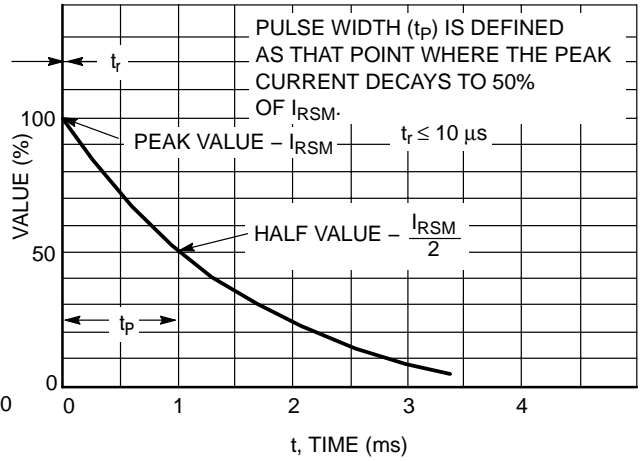
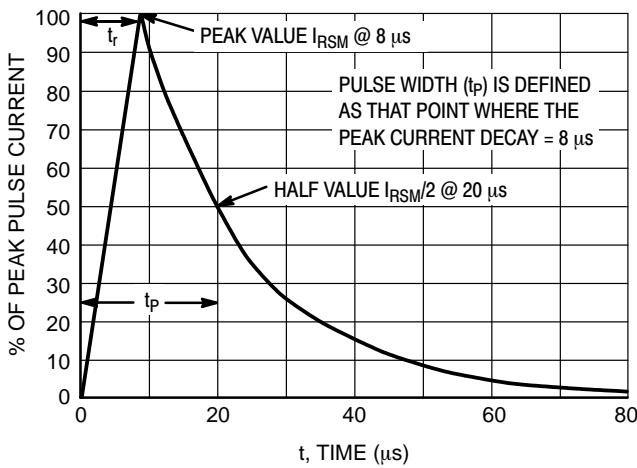

Figure 2. 10 X 1000 µs Pulse Waveform
Figure 3. 8 X 20 µs Pulse Waveform
1. Non-repetitive current pulse at  $T_A = 25^\circ\text{C}$ , per waveform of Figure 2.
2. Non-repetitive current pulse at  $T_A = 25^\circ\text{C}$ , per waveform of Figure 3.
7. Surge current waveform per Figure 2 and derate per Figure 3.